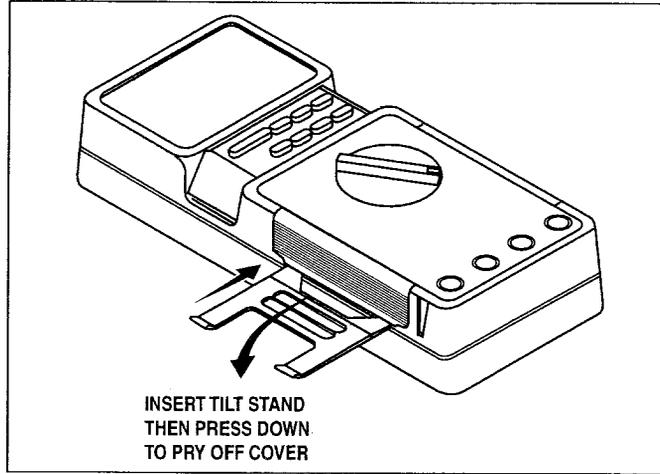

Fig. 14 Opening the Case
3. Refer to Figure 14, and use the legs of the tilt stand to pry the cover of the multimeter loose. Pry one side off and then the other side. Remove the cover from the multimeter. Carefully remove the clear insulator.